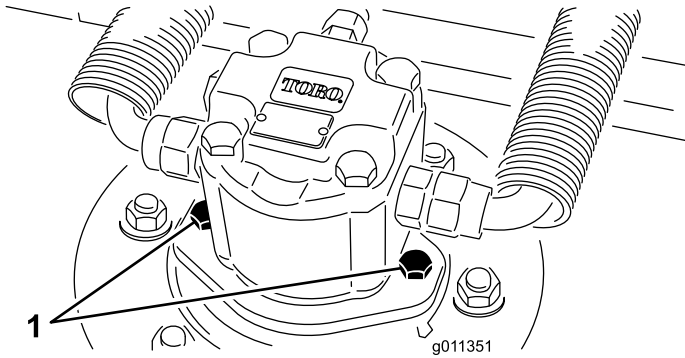

Figure 93
2. Disconnect and remove the hydraulic motor from the cutting unit (Figure 93). Cover the top of the spindle to prevent contamination.
3. Install the hydraulic motor to the cutting unit (Figure 93). Make sure that the O-ring is in position and not damaged.